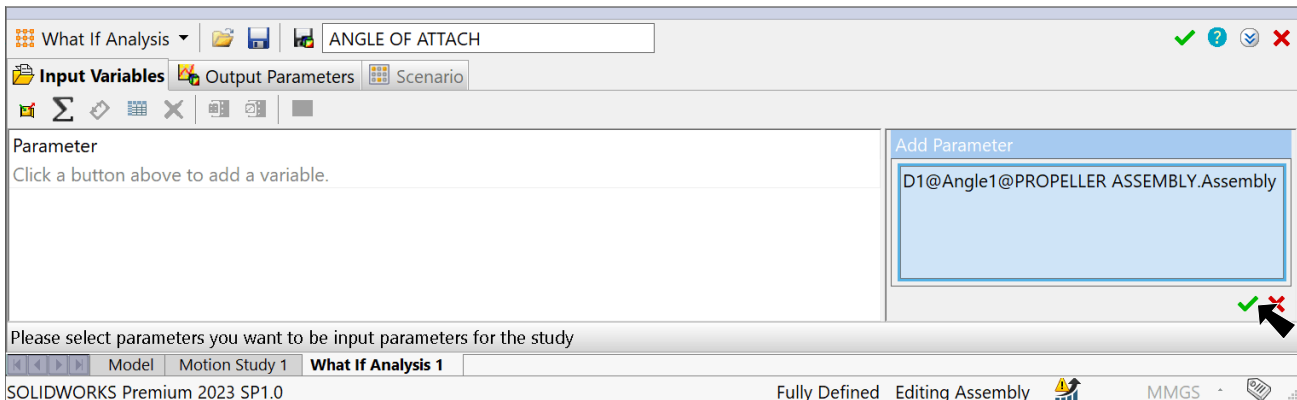

Fig. 5
Step 4. Click OK  at bottom of Add Parameters pane, Fig. 5.